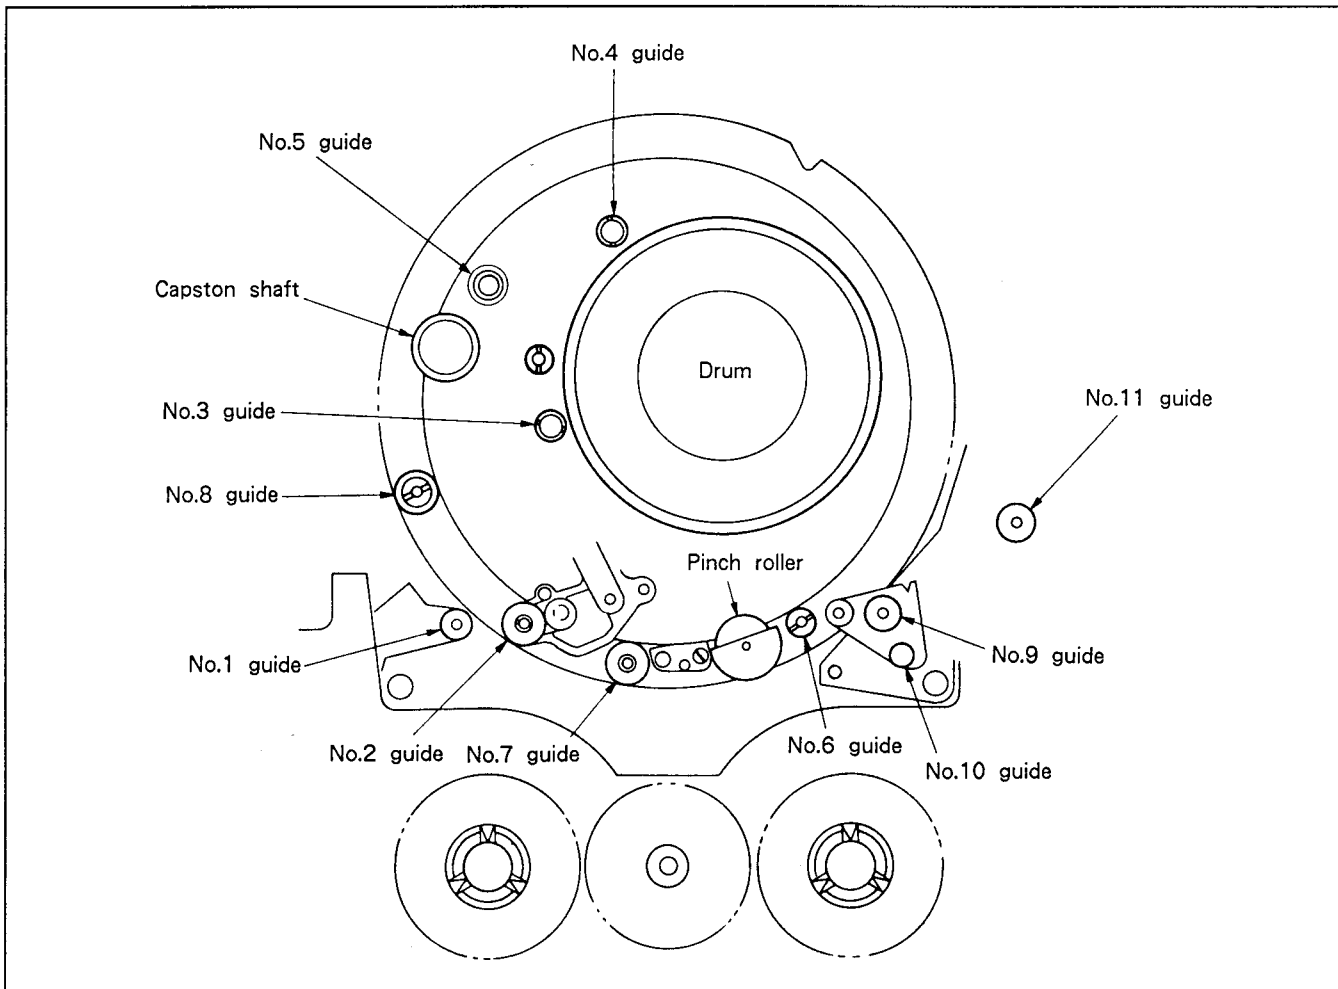

Fig. 7-4.
- 1) Place the cassette compartment assembly in EJECT state, and clean the tape path (No.1 to No.11 guides, capstan shaft, pinch roller) with a chamois cloth soaked in cleaning fluid. (See Fig. 7-4.)